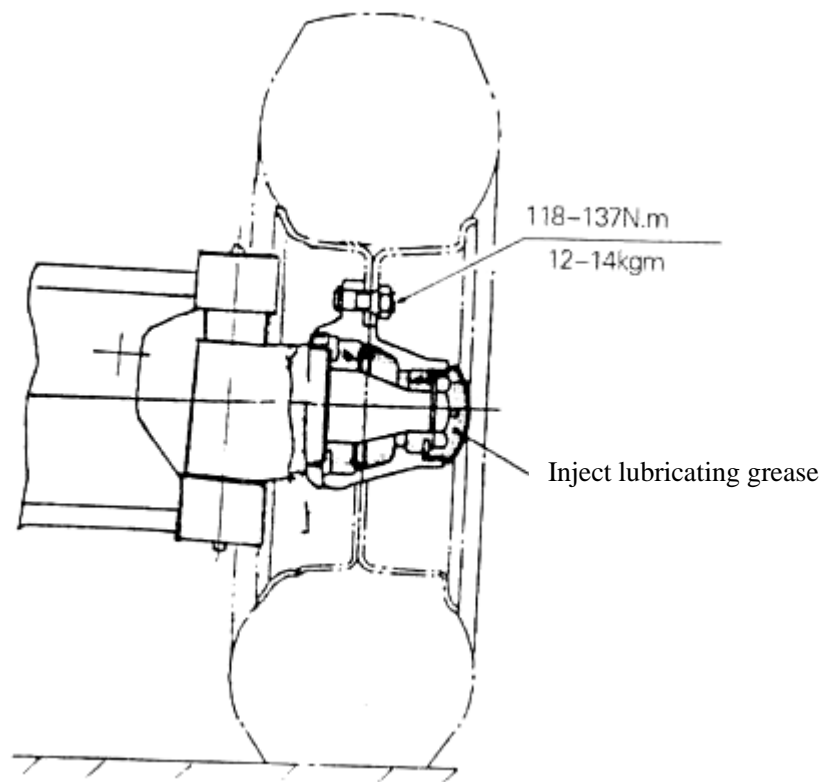

Fig 5-2 Adjustment for Pre-tightened Load
(1) As indicated in Fig 5-2, the internal cavities of internal and external bearings as well as wheel hub cover are added with lubricating grease, and at the same time some lubricating grease shall also be coated on the lip of oil seal.
(2) Fix the bearing outer ring onto the wheel hub, and mount the wheel hub onto the shaft of steering knuckle.
(3) Mount the flat washer and tighten the slot nut, and its torque is 206-235N.m (21-24kgm). Loosen the slot nut and then tighten this nut, with its torque as 9.8N.m (1kgm).
(4) Knock at the wheel hub gently using wood hammer, turn the wheel hub manually by 3-4 circles, to ensure a steady rotation, and measure the rotating torque, with its value as 2.94-7.8N.m (0.3-0.8kgm).
(7) When rotating torque is higher than the specified value, it may be returned by 1/6 circles, and then measure its rotating torque.
(8) Lock up the slot nut using cotter pin, when specified rotating torque is reached.